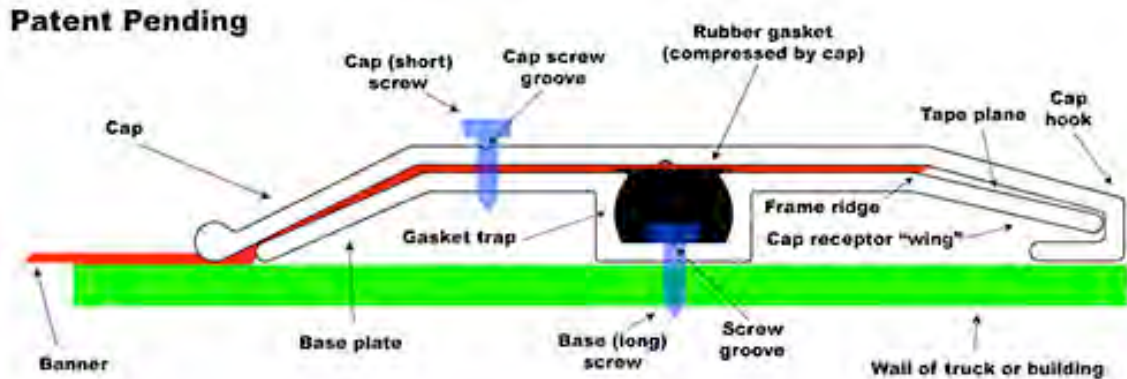

Figure 1: Assembled frame system (with labels)
- All 45° mitered angles must point to the cap receptor (the outer edge of the frame system, see figure 1 above).
Make sure that the top of the frame is parallel to the design of your truck (don't be fooled with a level; your truck may not be on level ground, or even level). To attach the base plate to a truck or wall, start with the top section of the frame. Use the longer self-tapping screws by inserting them into the screw groove inside the gasket trap (see figure 1). Starting in the center of your frame section, and in the center of your truck (left to right), and at a height that will allow enough room and aesthetic placement of the opposing bottom frame section, place screws every 10 inches, and place an additional screw within 1/2 inch of each end of the frame section. Install all additional pieces of the top section necessary to complete your desired length of the top section.
With capping plate in hand, cap the "hook" part over the outer edge of the base plate. Make sure that it matches up perfectly left and right. Press down securely and screw the shorter self-tapping screws into the cap screw groove (see figure 1), starting in the center. Place screws 12 inches apart until the entire framing system's capping plates are installed securely.